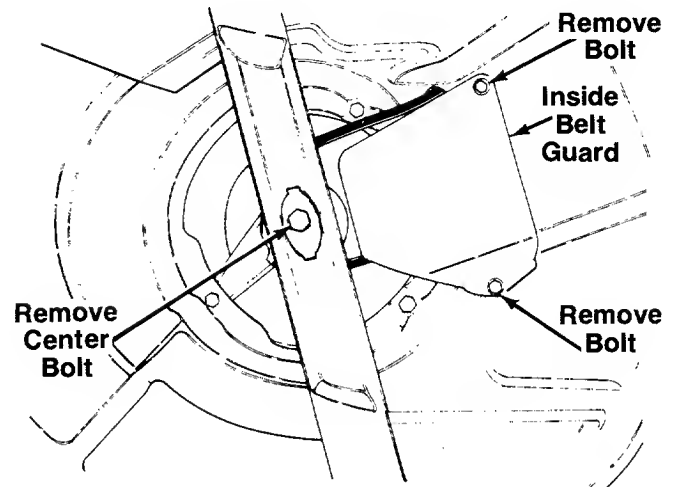

FIGURE 27.
5. Remove the center bolt which secures the blade to the crankshaft. See figure 27. Remove the blade, blade adapter and pulley half. Remove the belt.
6. Remove the inside belt guard by removing two self-tapping screws. A 3/8" wrench is required. See figure 27.